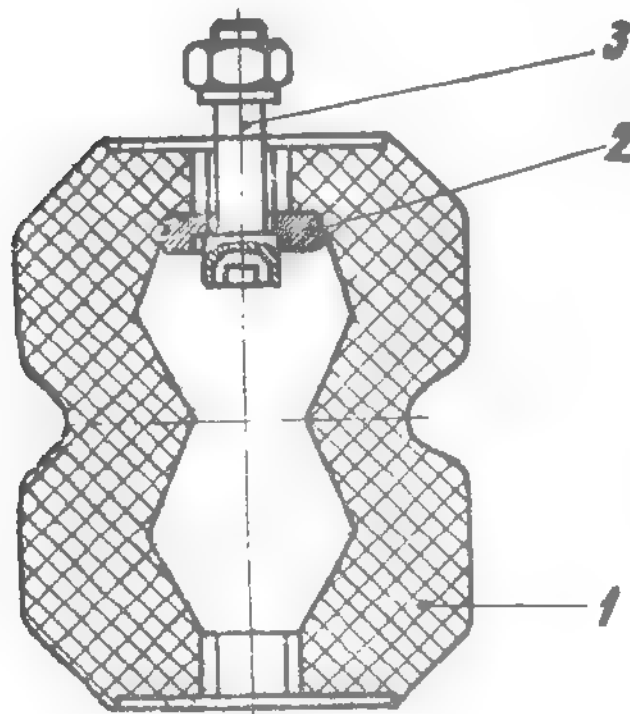

Fig. 4.156. AEON SPRING RUBBER PAD
- Retaining the bolt (3) - see Fig. 4.156 -, through pad inside, unscrew the nut fastening the pad on the rear spring.